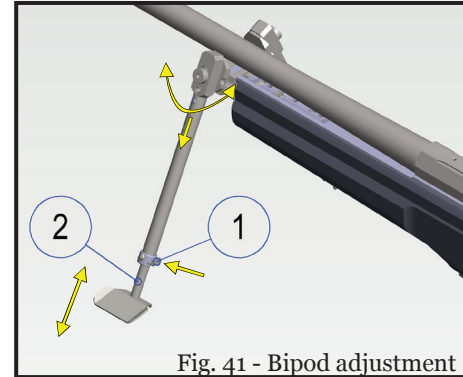

Fig. 41 - Bipod adjustment
1. Press and hold Catch (1, Fig. 41).
2. Move lower leg (2) to the desired position.